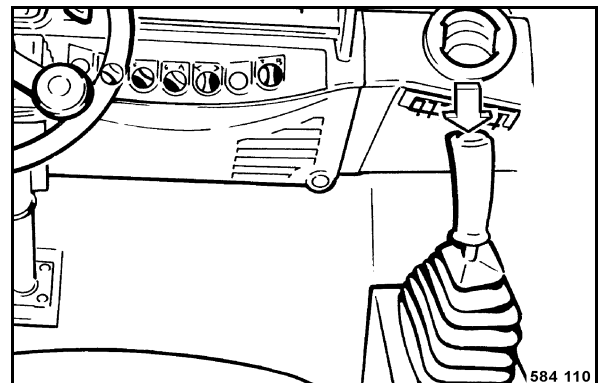

Fig. 97
- Switch the vibration on (Fig. 97).